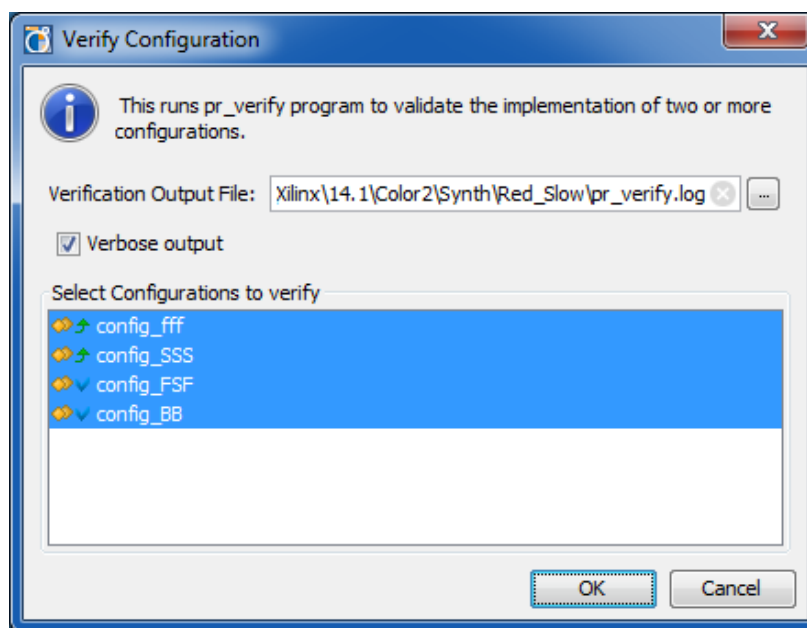

Figure 4-37: Selecting Configurations to Verify
- The dialog box, shown in Figure 4-37, prompts for two or more Configurations, and you define the output file.